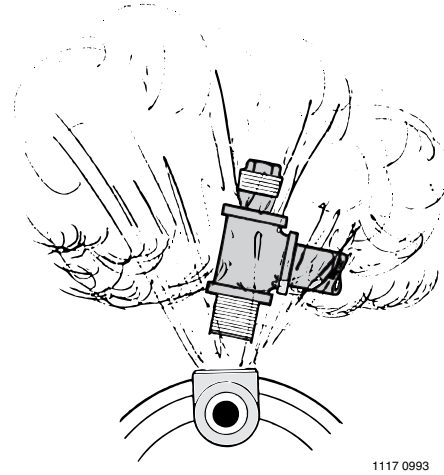

**Figure 5: Fill Pump Before Starting**
- Step 3. Fill pump and suction pipe with water (Fig. 5).